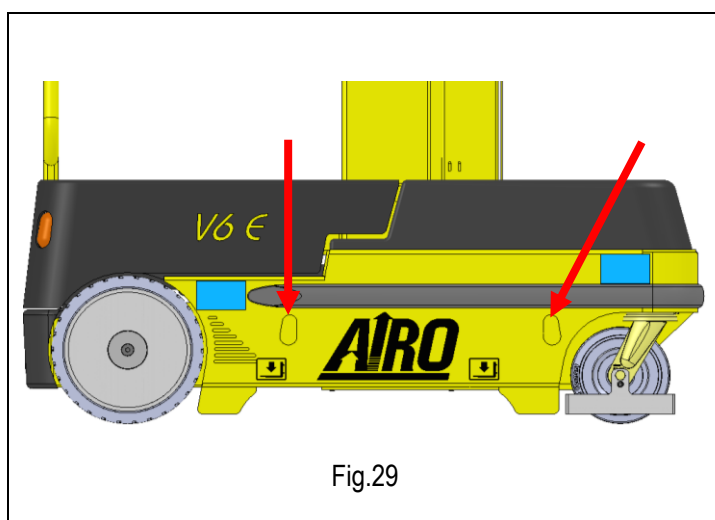

Fig.29
- **Through the 4 fastening holes** located on the sides of the machine, it can be lifted by means of hooks and steel ropes (with safety factor = 5, see machine weight in Technical Features) connected to the provided holes as indicated in the Fig. 29.